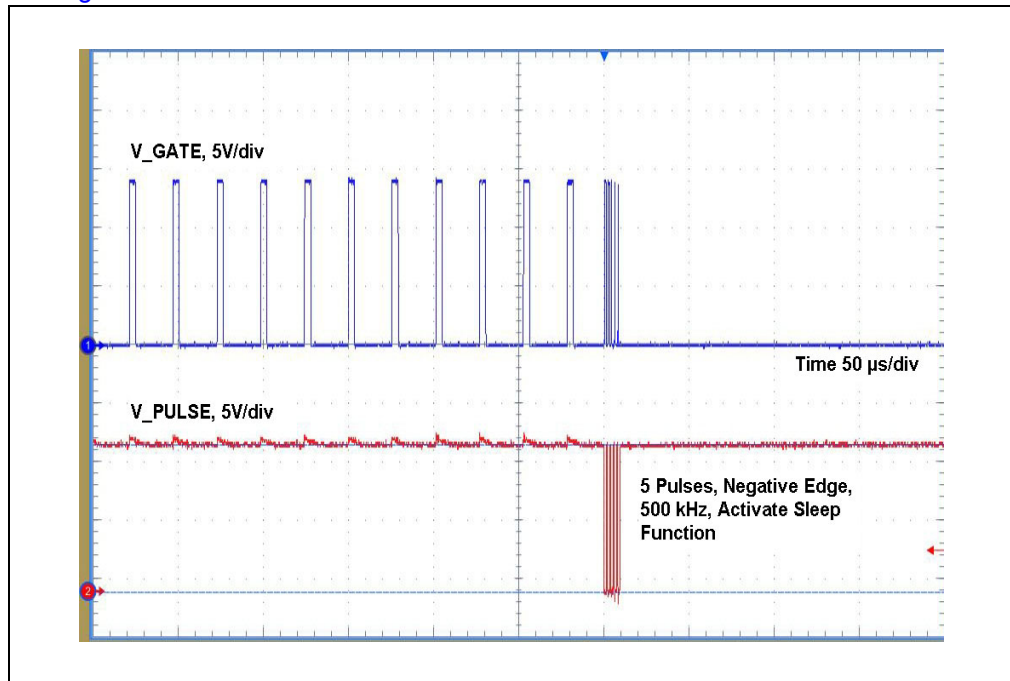
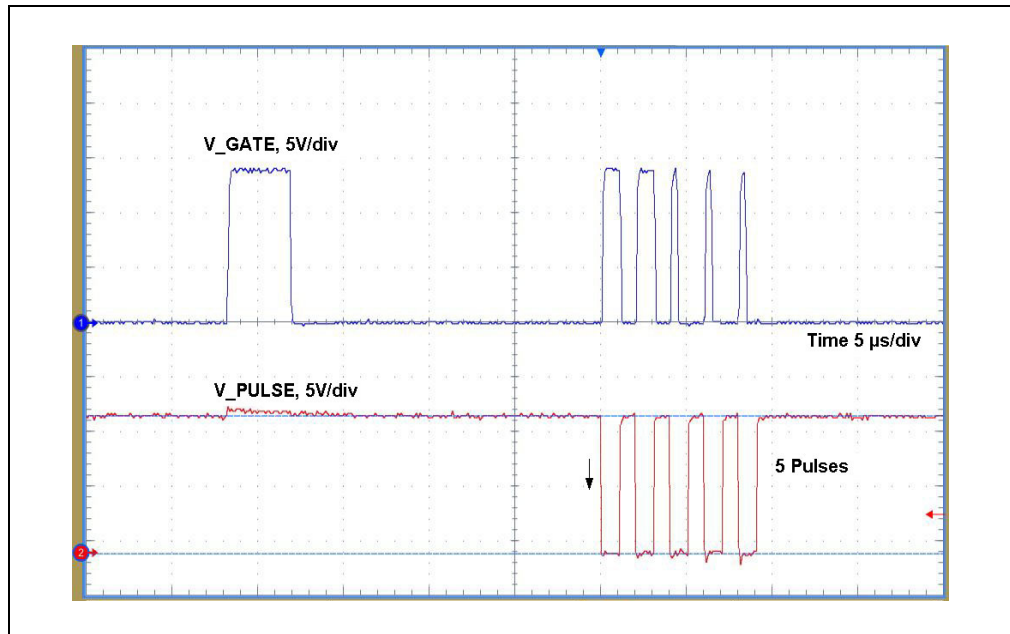

FIGURE 5-1: MCP1012 Sleep Command.
FIGURE 5-2: MCP1012 Sleep Command (Figure 5-1 Detail).
8. Push the push button SW2 and check on the oscilloscope screen the V_GATE voltage and the PULSE signal, as they are presented in Figure 5-1 and Figure 5-2.